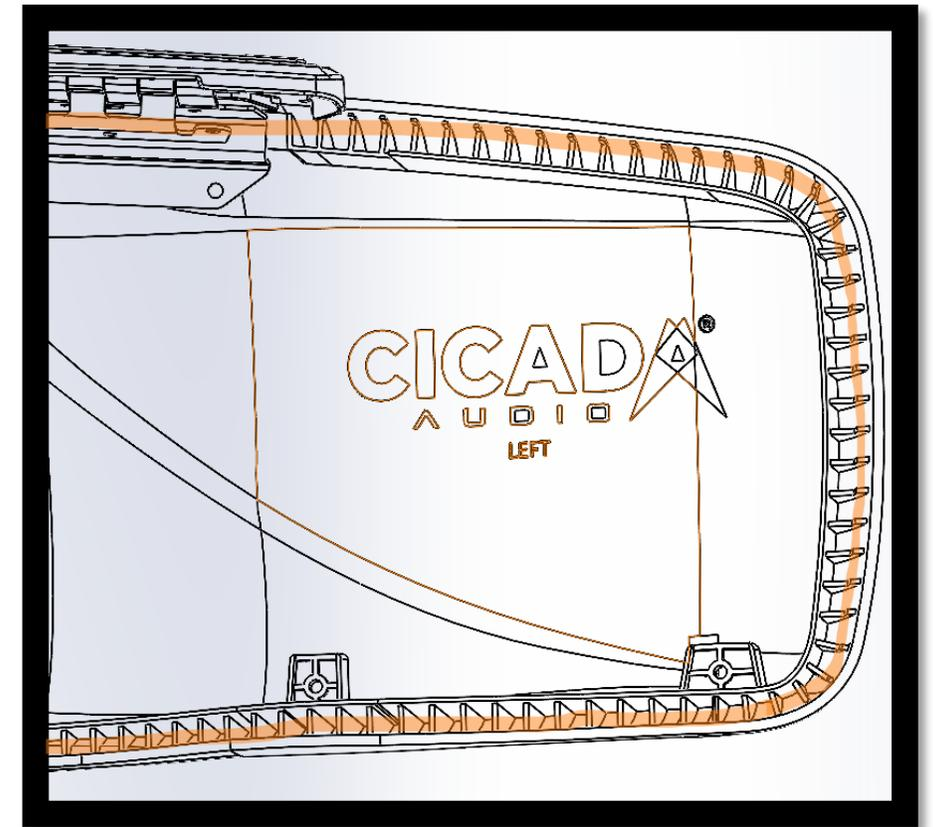

Figure 14 – Lid Gasket
- Apply Adhesion Promoter to outer solid wall of channel [ORANGE], (see Figure 14).